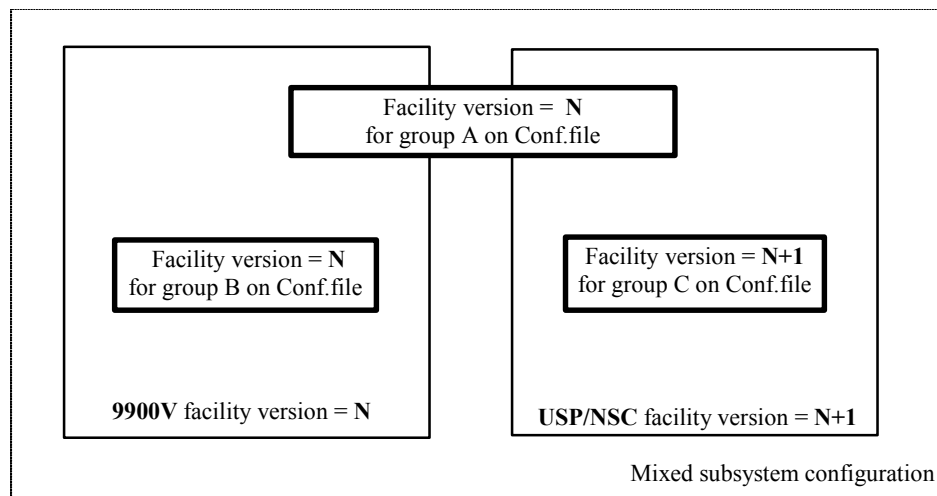

Figure 4.75 Definition of the Group Version
- In a mixed storage system configuration, if the facility version of the storage systems (e.g., USP/NSC and 9900V) is different on a group, CCI will apply the minimum version for each group (see Figure 4.75).